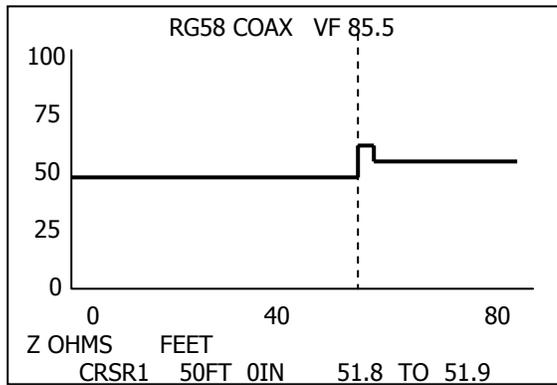

Figure 2
3. Corrosion on the connection surfaces, on either the center conductor or the shield of the connectors, creates a resistive fault that will raise the impedance going through the connection. The amount of resistance is random depending on the amount of poor connection surface, but the resistance will raise the impedance trace on the far side of the connection as shown in Figure 2.
If the coax cable has been directly spliced without the use of connectors and a poor connection results from a cold solder joint, dirty connection or corrosion, it will appear as a resistive fault. It will also raise the impedance trace on the far side of the splice and appear similar to the trace shown in figure 2.